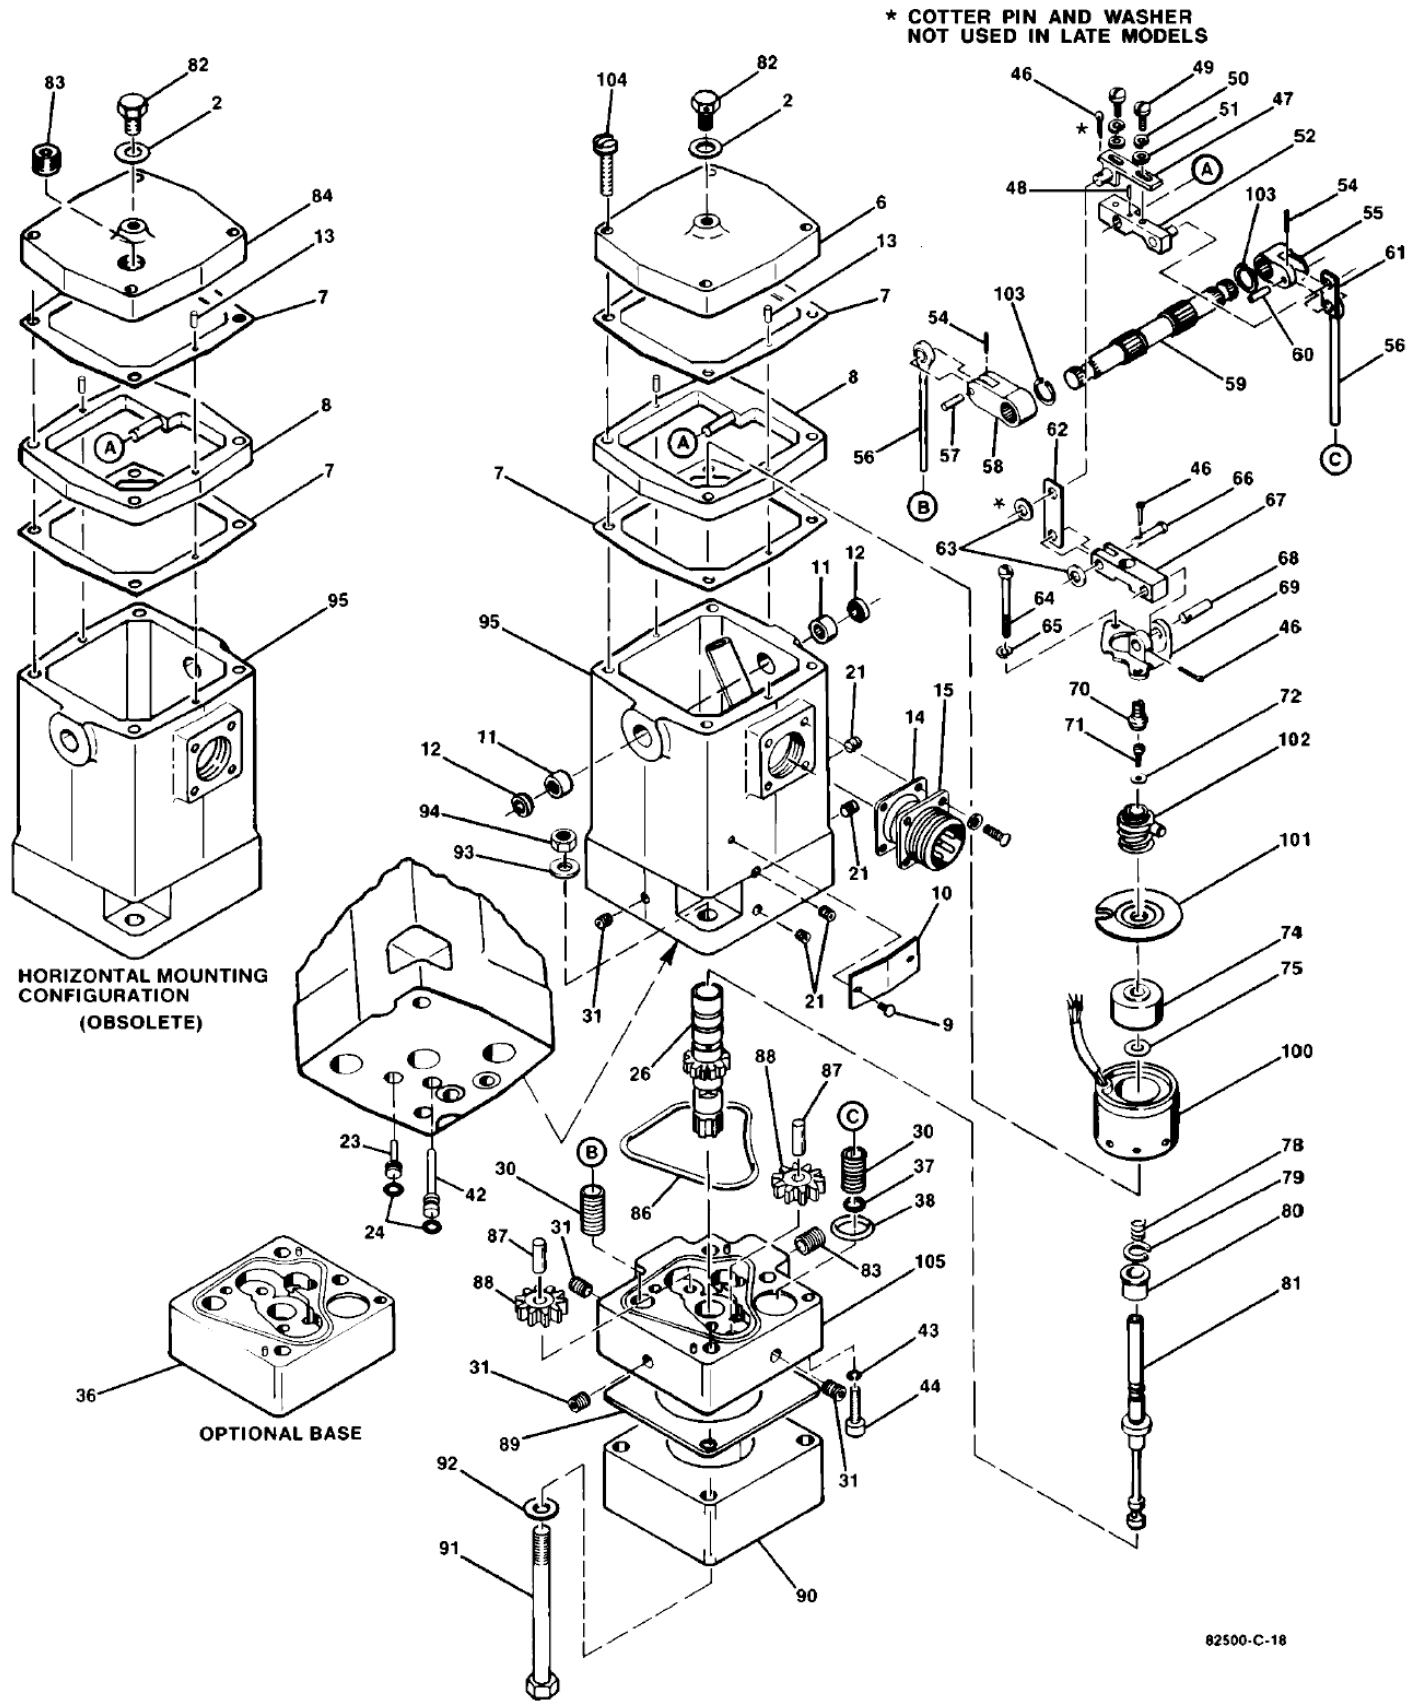

Figure 4-1b. Exploded View (EG-3P with Oil Motor)
1. Remove cover (6 on Figure 4-1b) for access to feedback bracket (47).